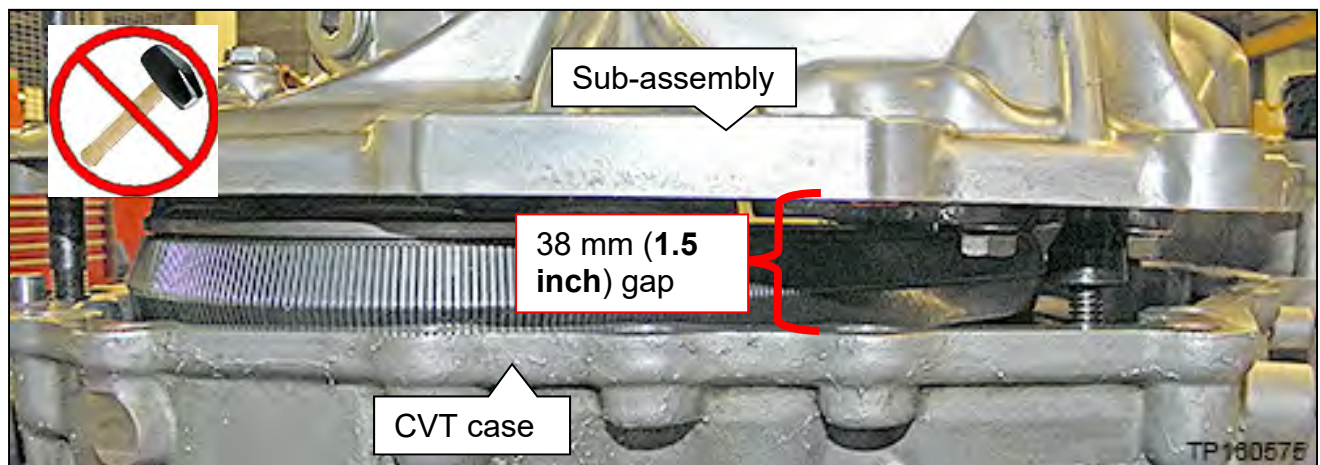

Figure 98
- b. Lower the sub-assembly until a gap of **38 mm (1.5 inch)** is present to the CVT case (Figure 98 on page 49) and then proceed to step 72.
IMPORTANT: Perform step 72 while the sub-assembly has a **38 mm (1.5 inch)** gap to the CVT case (Figure 98).